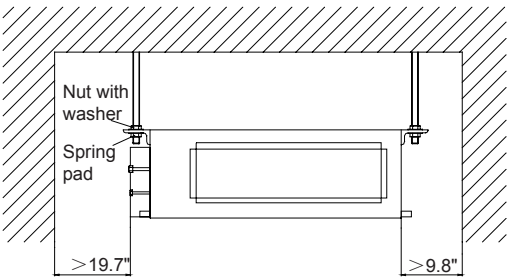

Fig. 2
- 4) Ensure the installation space shown in Fig.2 is left for maintenance access.